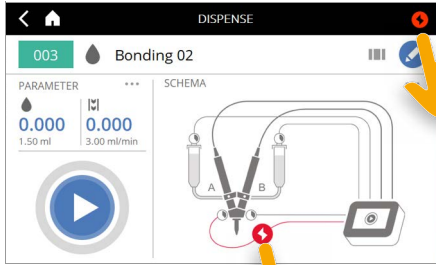

Fig. 99
1. Directly from the header (Fig. 99).
2. If the “Schema” view is set in the “Dispense” screen, some errors are indicated graphically. If you click on the image, you will be taken to the error message (Fig. 99).